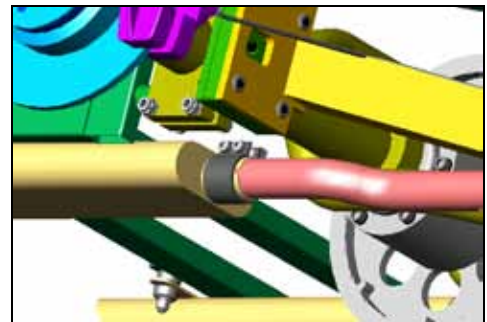

Figure 45
- b. Install CS supplied muffler's inlets to Drop Down Tubes using CS-supplied clamps. Figure 45